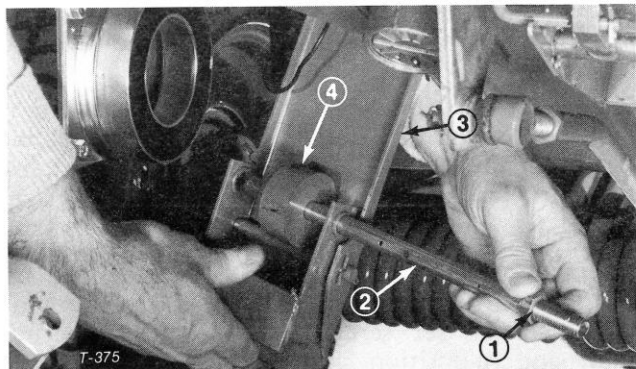

Figure 21
9. Fully install a jam nut onto threaded end of new traction pedal shaft (Fig. 21). Insert non-threaded end of shaft into left hand hole of traction pedal bracket and friction wheel (Fig. 21).